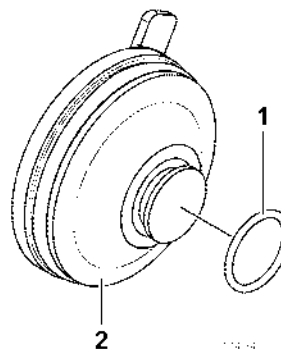

Figure 14
5. Remove the O-ring (1, Figure 14) from the cover assembly (2, Figure 14).